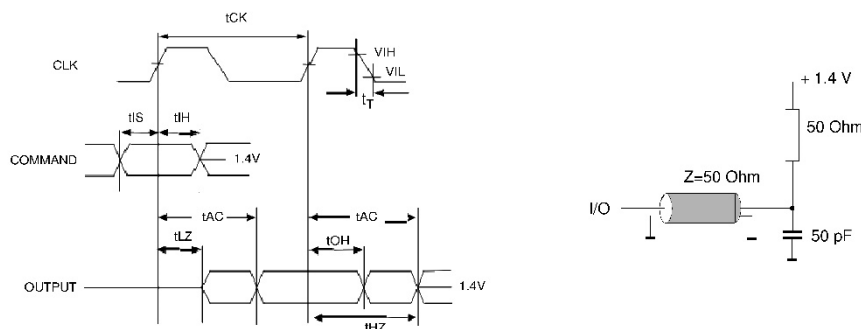

Figure 1.
2. AC timing tests have  $V_{IL} = 0.4\text{ V}$  and  $V_{IH} = 2.4\text{ V}$  with the timing referenced to the 1.4 V crossover point. The transition time is measured between  $V_{IH}$  and  $V_{IL}$ . All AC measurements assume  $t_T = 1\text{ ns}$  with the AC output load circuit shown in Figure 1.